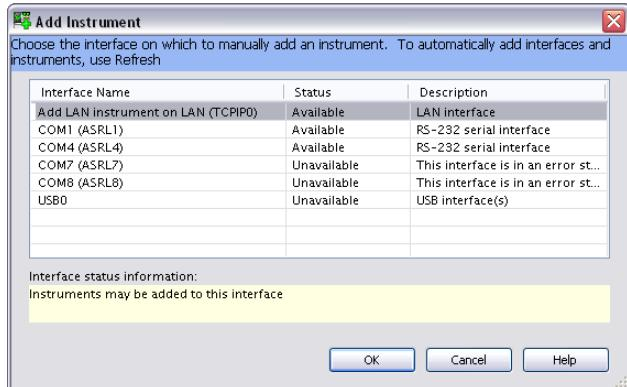

Figure 1-11 Add Instrument window
- 2 On the Agilent Connection Expert window, click on  **Add Instrument**. An Add Instrument window will be prompted out. Select **Add LAN instrument on LAN (TCP/PO)** interface and click **OK** (see Figure 1-11).